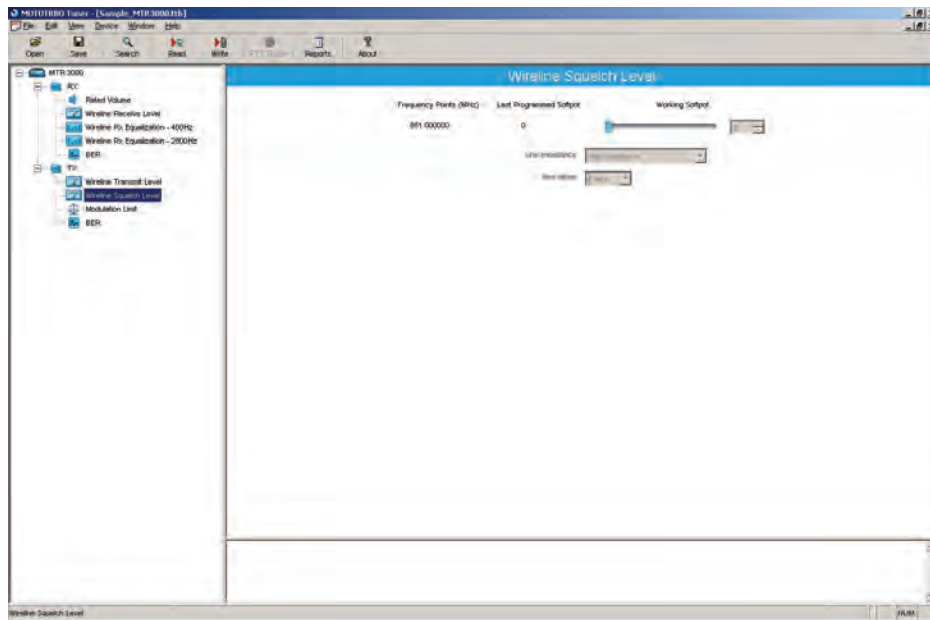

Figure 13-10 Tx Menu tree (Wireline Squelch Level)
5. Select “Wireline Squelch Level” under the Tx menu in the tree view (Refer to Figure 13-10).